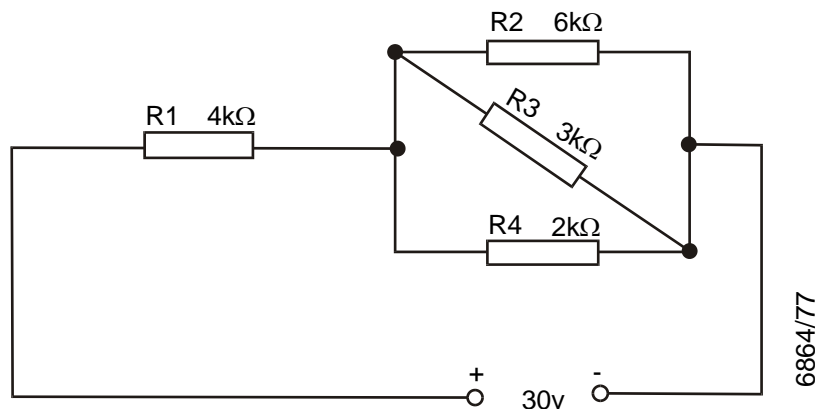

Figure 50
9. In Figure 50 above, calculate the current in: